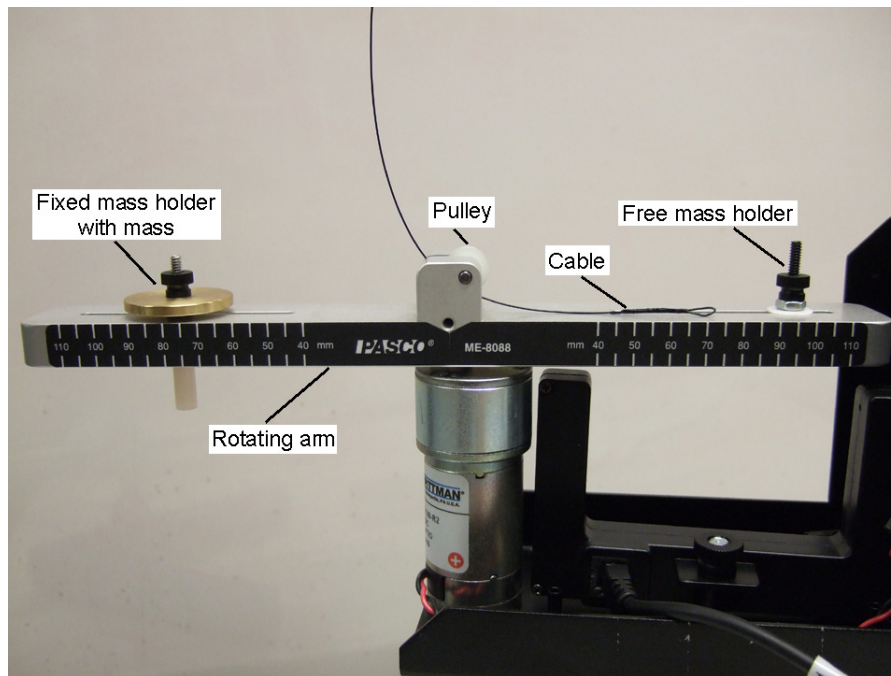

Figure 3 Experimental setup (rotating part)
1. Remove the free mass holder (see Fig. 3) and measure its mass. Record the value in the lab report. To remove the free mass holder, loosen the thumbscrew and nut above the rotating arm. **NOTE:** The free mass holder includes the thumbscrew, nut, two plastic washers (one above the rotating arm and another below) and an attachment screw.
5. Place an equal amount of mass (30g mass) on the fixed mass holder, as shown in Fig. 3.